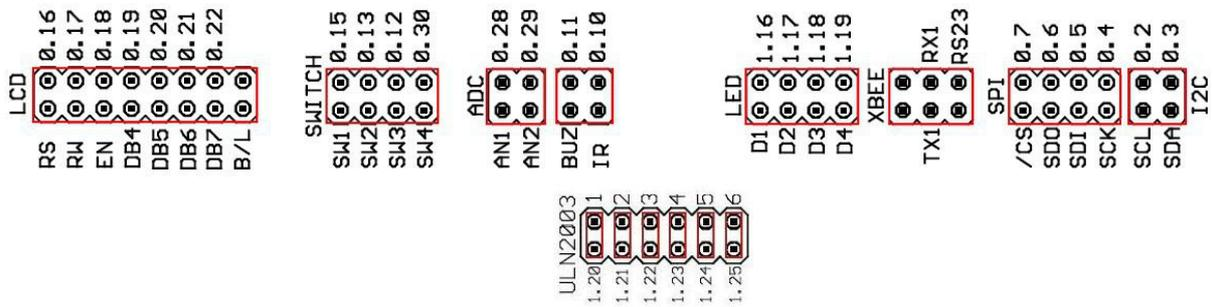

Fig. 4.1
1. Insert jumpers as highlighted in fig. 4.1